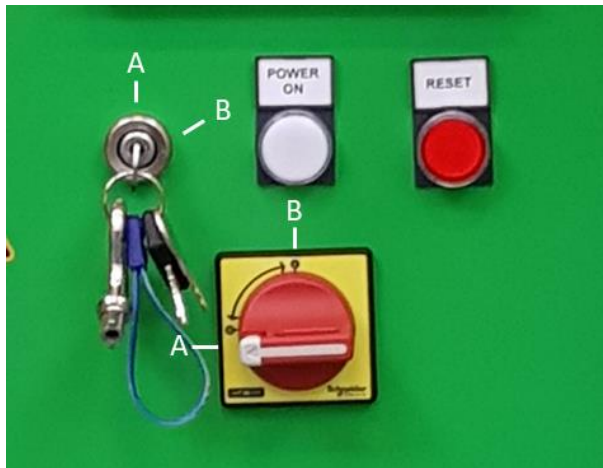
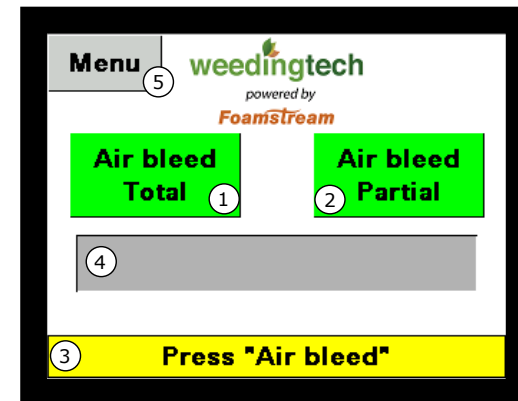
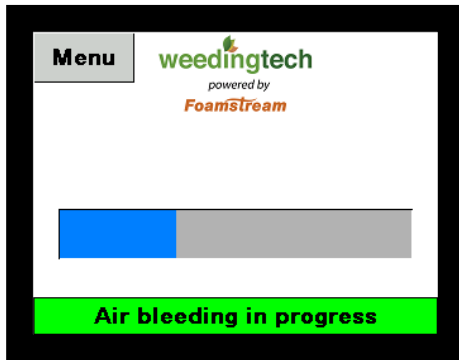

Figure 2 - Detail of the front panel
Figure 3 - Start-up screen of the PLC
Figure 4 - Bleed screen of the PLC
- ✓ Start the generator by turning the key (item '5' in Figure 2) in a clockwise direction to position 'B', release to position 'A' when the engine starts
- ✓ Turn the isolator switch (item '2' in Figure 2) to position 'A', the PLC screen (item '6' in Figure 2) should illuminate
- ✓ Press the 'RESET' button (red button, item '3' in Figure 2), the 'FAULT' indicator goes out and you should see the screen represented in Figure 3.
- ✓ Wait a few seconds before requesting air bleed: buttons '1' or '2' in Figure 3.
- ✓ Once button '1' or '2' of Figure 3 is pressed the bleed screen represented in Figure 4 will appear.